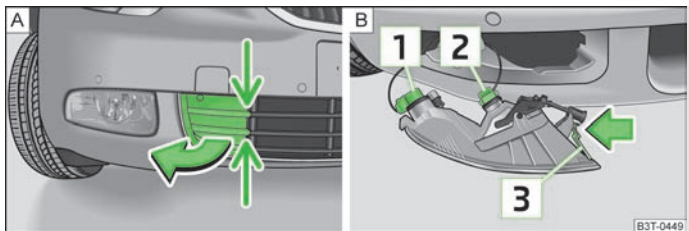

Fig. 191 Front bumper: Cover/fog lights with daylight driving lights
- Grasp the cover in the areas marked by the arrows » Fig. 191 - **A** and remove it.
- Insert your hand into the opening left by the cover and press the lug **3** » Fig. 191 - **B**.